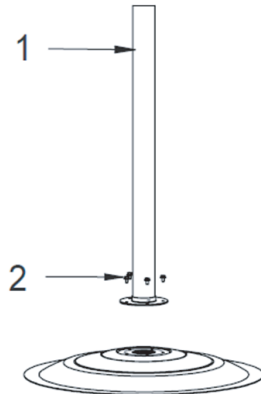

Fig. 2.
1. Ensure the fan is NOT plugged into a power source and the fan is OFF. Insert five screws (2) through the holes in the upper pole (1) and then attach the upper pole to the base. See Fig. 2.